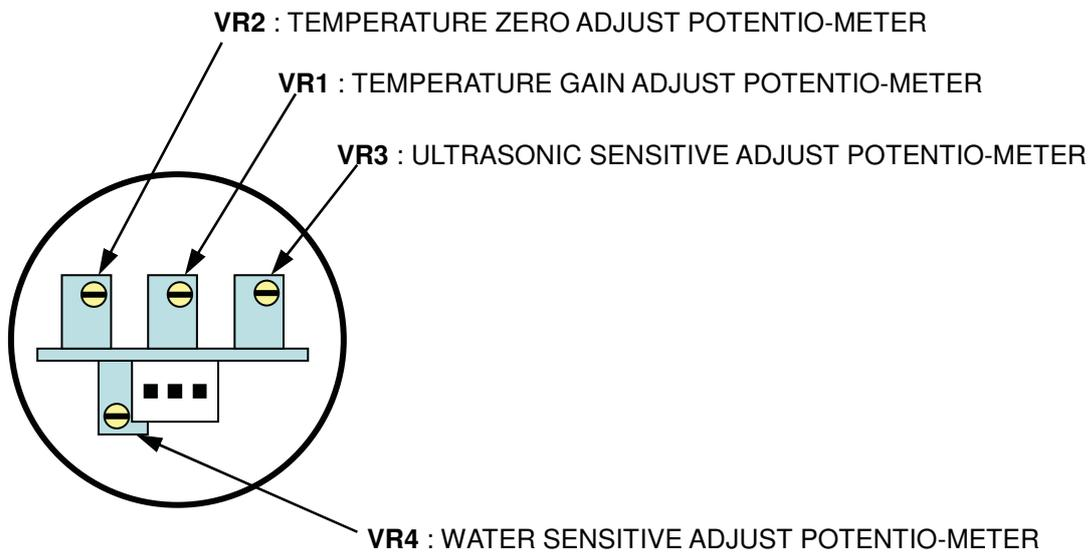

Fig. 2 SENSOR PROBE VIEW FROM THE TOP
2. After separate the sensor unit from probe barrel, three electric wire have to disconnect from the 3P terminal by a small (-) screw driver. Refer to Fig. 2